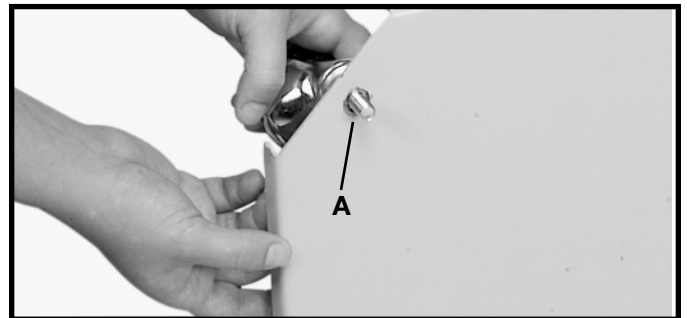

Fig. 3
2. For each wheel, insert bolt from caster through the holes (A) Fig. 3 in the base of the dust collector (three are not shown).